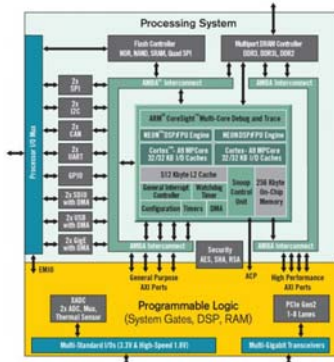

Figure 2.1 Zynq APSoC architecture
The Zynq APSoC is divided into two distinct subsystems: The Processing System (PS) and the Programmable Logic (PL). Figure 2.1 shows an overview of the Zynq APSoC architecture, with the PS colored light green and the PL in yellow. Note that the PCIe Gen2 controller and Multi-gigabit transceivers are not available on the Zynq-7020 device.